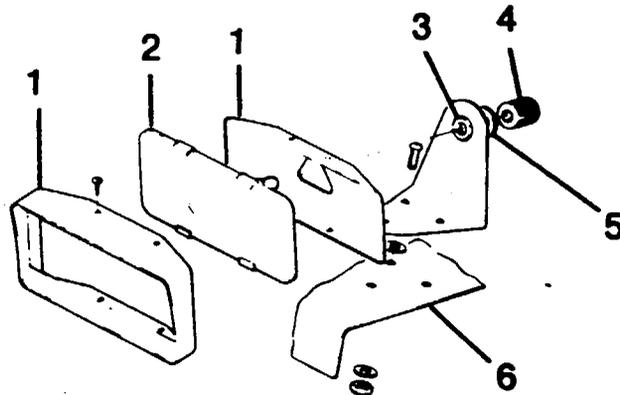

Figure 3-10. Rear View Mirror Installation
- 3-56. **REAR VIEW MIRROR. (172 AND F172 SERIES ONLY.)** (See figure 3-10.) A rear view mirror may be installed on the cowl deck above the instrument panel. The figure illustrates details for removal and installation of rear view mirror.